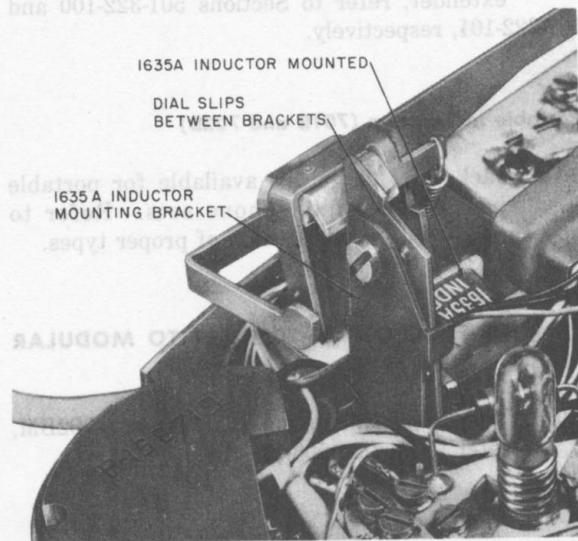

Fig. 9—1635A Inductor Mounted in 701B Telephone Set
- (1) Remove housing from telephone set.
- (2) Loosen dial and lay it aside.
- (3) Remove left screw from dial mounting bracket.
- (4) Install inductor as shown in Fig. 9.
- (5) Replace screw in dial mounting bracket.
- (6) Connect inductor between terminals B of network and 3 of terminal board.
- (7) Replace dial and housing.